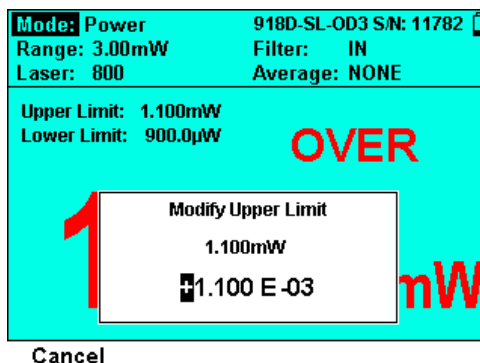

Figure 9-25 Photodiode Pass/Fail - Modify Upper Limit
1. Press the **Upper** or **Lower** key. The respective **Modify Upper/Lower Limit** window opens (see Figure 9-25 below).
If the measurement is out of range, “OVER” or “UNDER” will be displayed on the screen. If the Color Scheme has been set to one of the full color options, then this will be displayed in RED, along with the reading itself (as shown in Figure 9-25 below).